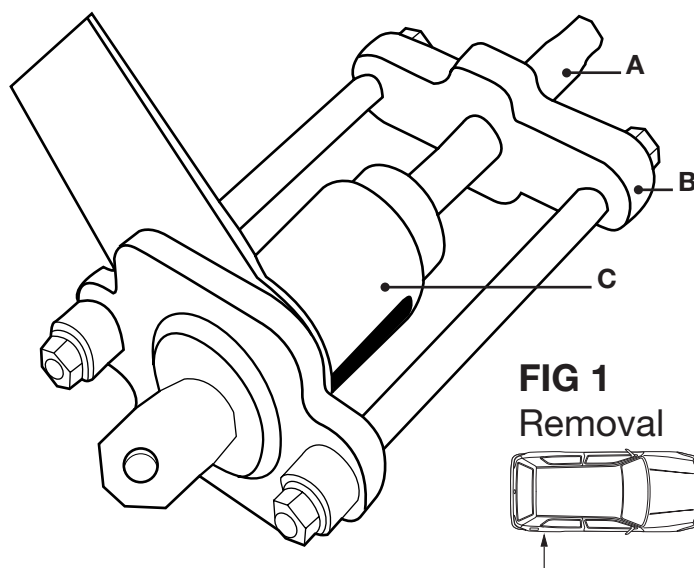

FIG 1
- 4 To remove the old bush, assemble tool as shown in (Fig 1) using removal sleeve.
- 5 The tool should be pushing in to the centre from the outside (Fig 1).